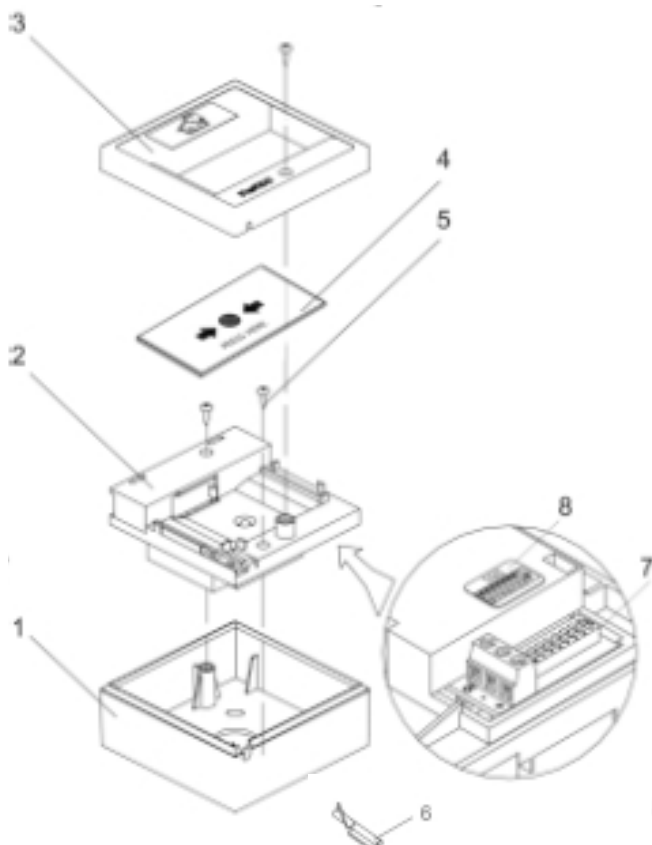

Fig.1 / Sl. 1
Detector's layout is seen on the front page. Details of the structure of the 6150 can be found on Fig.1. The 6150 consists of a surface mounting box (pos.1), a carrier unit (pos. 2), a cover (pos. 3), a glass (pos.4), a test key (pos.6).